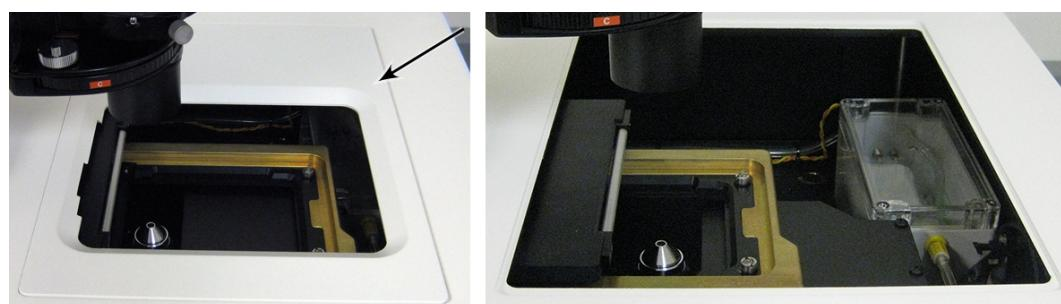

Figure 7-7: Top access panel around the top door on and off
3. Remove the top access panel surrounding the top door (Figure 7-7), and for more access.
13. Replace the top access panel surrounding the top door and . See Figure 7-7.